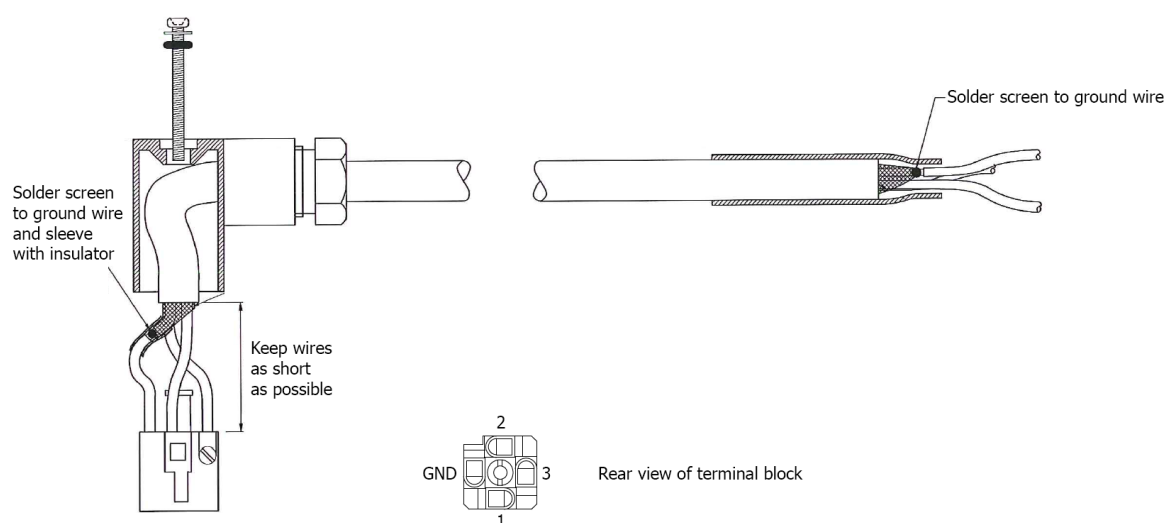

Figure 5 *Cable Assembly*
4. Cable should be assembled according to *Figure 5*.